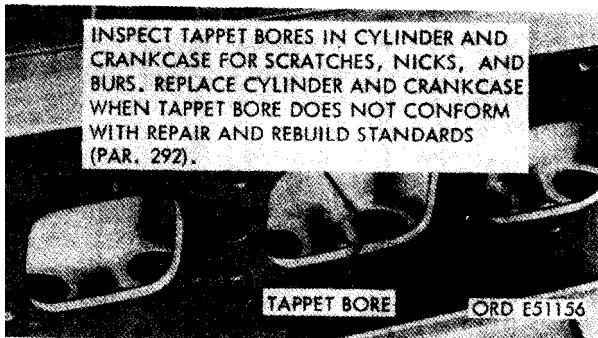

FIGURE 324. CHECKING TAPPET BORE CLEARANCE.
- (4) Tappet bore. Inspect tappet bores against limits specified in repair and rebuild standards (par. 292) by following instructions on figure 324.